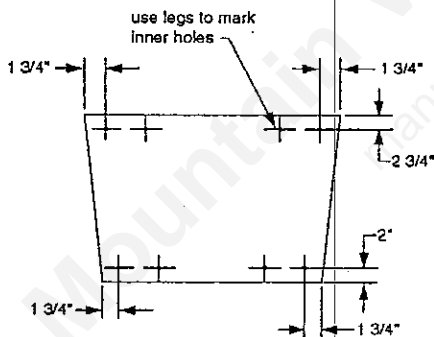

Fig. 1
3. Position the leg assembly on the bottom of the heater as shown in Fig. 1. Mark the hole locations using the leg assembly holes as locators. Using an electric drill and the drill bit (7/32" dia.) provided, drill (8) holes in the bottoms of the cabinet in the locations shown in Fig. 1.